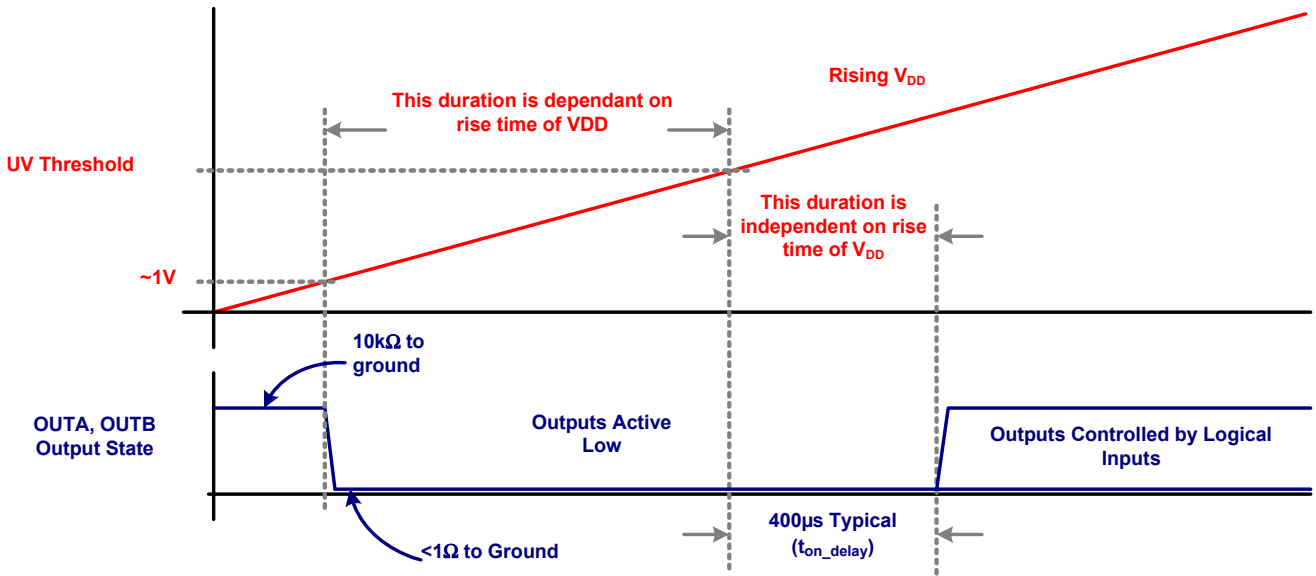

Figure 10. Start-Up Output Characteristic
| VDD Undervoltage Lockout (Options A and B) (Note 12 , Figure 10) | V _{UV} | ENA = ENB = True INA = INB = True | | 3.3 | | | | V |
| VDD Undervoltage Lockout (Option C) (Note 12 , Figure 10) | V _{UV} | ENA = ENB = True INA = INB = True (Note 9) | | 6.5 | | | | V |
- A 400 μs delay further inhibits the release of the output state when the UV positive going threshold is crossed. See Figure 10 on page 10.
| Turn-On Delay (Note 12, Figure 10) | t_{on_delay} | see Figure 10 | | 400 | | | | μs |
The start-up sequence for input threshold Options A, B, and C prevents unexpected glitches when V_{DD} is being turned on or turned off. When $V_{DD} < \sim 1V$, an internal $10k\Omega$ resistor connected between the output and ground helps keep the gate voltage close to ground. When $\sim 1V < V_{DD} < UV$, both outputs are driven low while ignoring the logic inputs. This low state has the same current sinking capacity as during normal operation, and it ensures that the driven FETs are held off even if there is a switching voltage on the drains that can inject charge into the gates using the Miller capacitance. When $V_{DD} > UVLO$, and after a $400\mu s$ delay, the outputs now respond to the logic inputs. See Figure 10 for complete details.